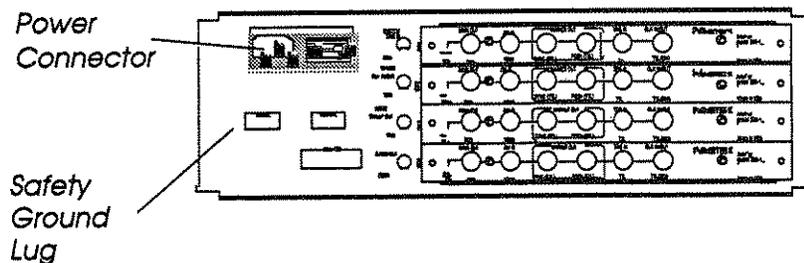

Figure 2-6. Power Connector
1. Connect the power cable to the power connector on the Model 295 rear panel; see figure 2-6.